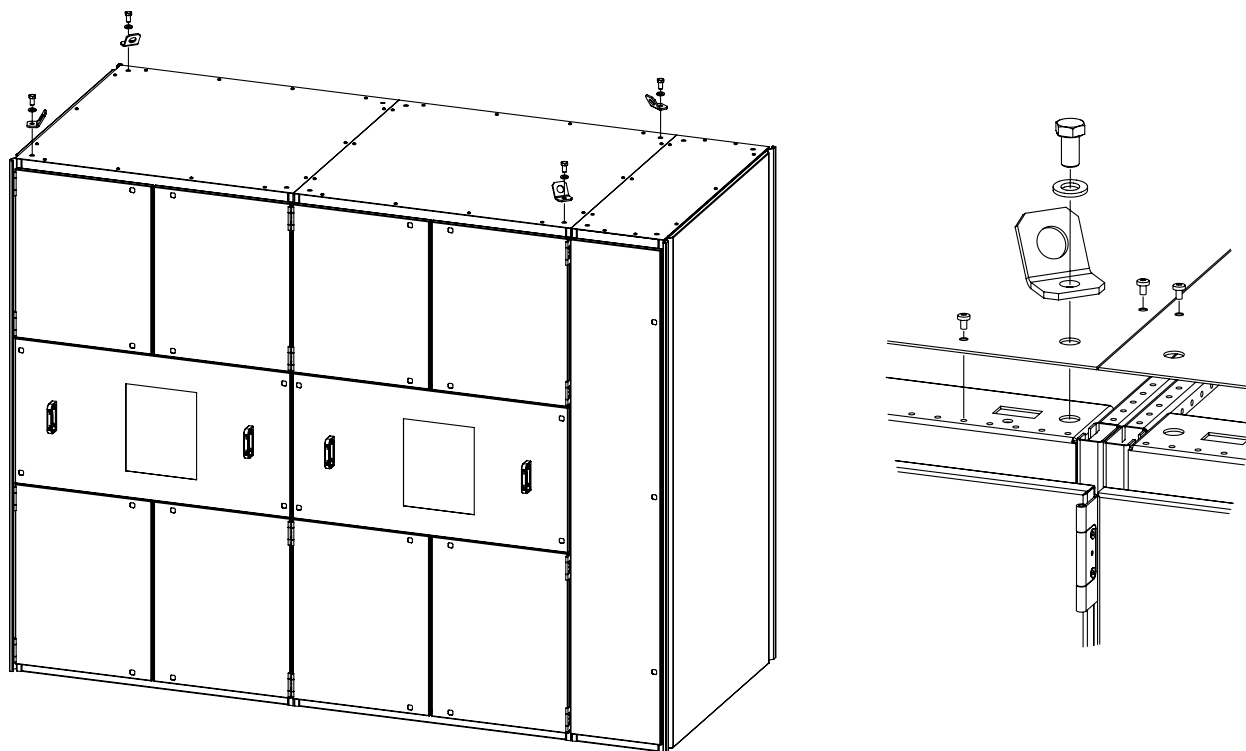
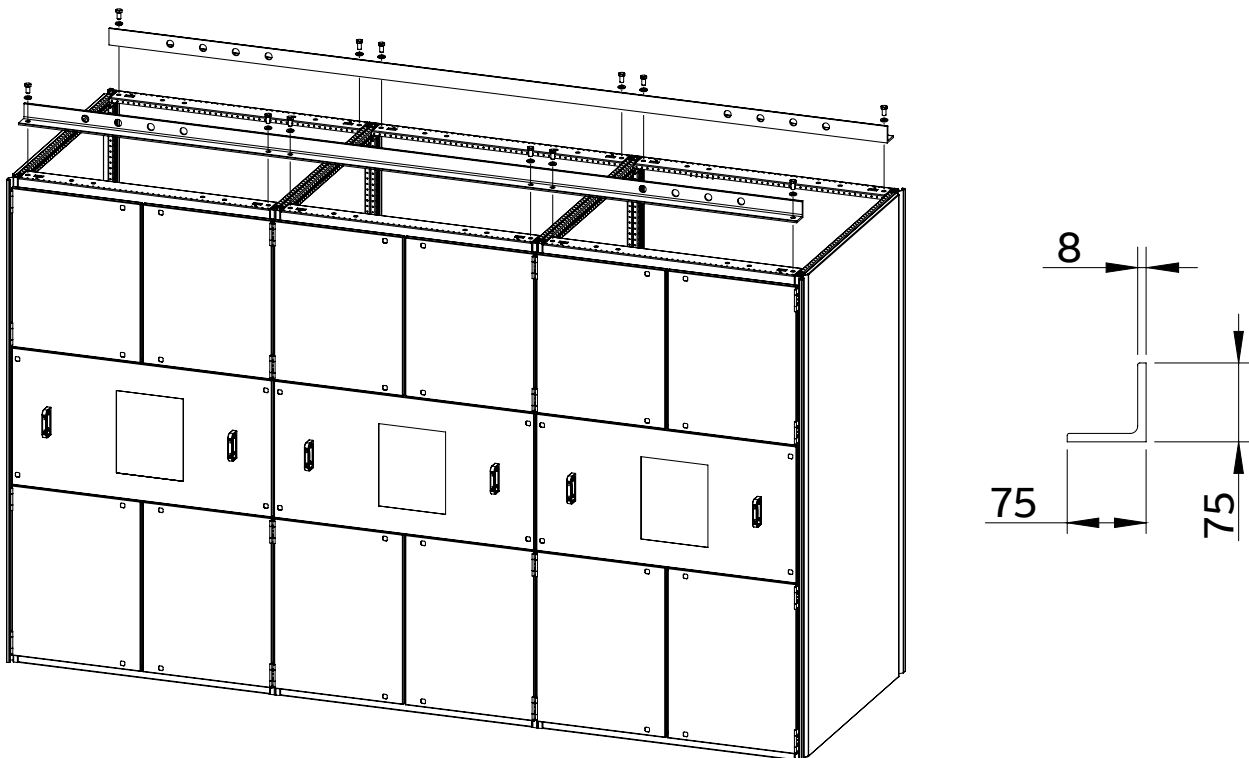

Figure 3-17 Arrangement of single lifting angles
Figure 3-19 Arrangement of lifting by L – profile and L-profile details (dimensions in mm)
- For the transport by crane the shipping units are equipped with single, double lifting angles (see Figure 3-17 and 3-18) or customized lifting L-profiles (see Figure 3-19) to allow usage of four legs sling.
- Ensure even balance of the load. Attachment points shall be distributed in same plan around and above the center of gravity, load distribution per leg shall be equal. In case not symmetrical construction (see Figure 3-17 and 3-18) maximum outer section width is 800mm and weight of such section shall be lower than 20% of the mass of whole shipping unit.
Shipping units arranged of up to three connected sections, length up to 2,8 m and mass up to 3000 kg shall be raised by means of single lifting angles according to Figure 3-17.
Shipping units arranged of multiple connected sections, length up to 3,6m and mass up to 3900 kg shall be raised by means of customized L – profile according to Figure 3-19.